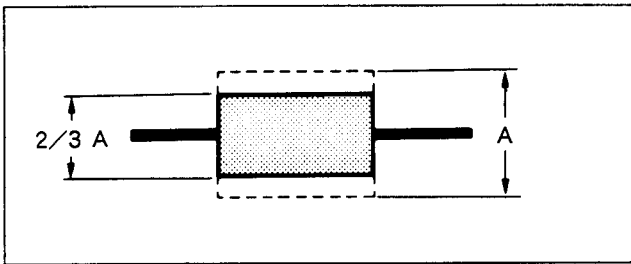

Fig. 7-84.
- 2) Set the SEL switch of the track shift jig to ON, and turn the track shift knob, until the RF waveform amplitude becomes  $2/3$ . (See Fig. 7-84.)